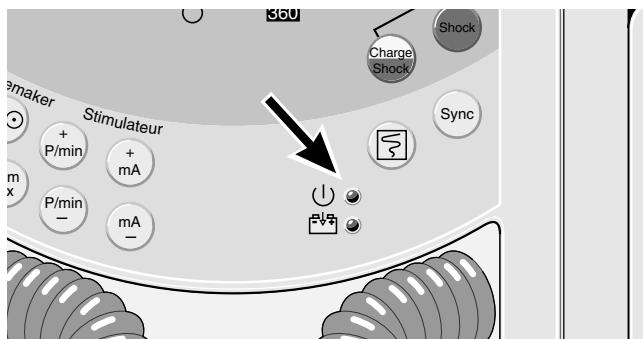

Figure 3-2. Green indicator (indicating that defibrillator is supplied from the power line)
- * Check that the green indicator is lit (Figure 3-2).